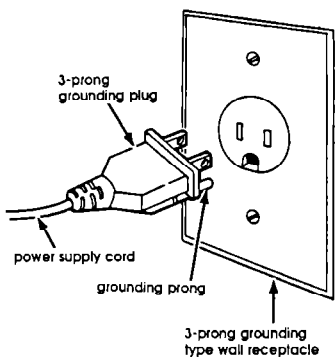

Figure 1
For your personal safety, this appliance must be grounded. This appliance is equipped with a power supply cord having a 3-prong grounding plug. To minimize possible shock hazard, the cord must be plugged into a mating 3-prong grounding type wall receptacle, grounded in accordance with the National Electrical Code, ANSI/NFPA 70-1987 (or to the latest code) and local codes and ordinances. See Figure 1. If a mating wall receptacle is not available, it is the personal responsibility and obligation of the customer to have a properly grounded, 3-prong wall receptacle installed by a qualified electrician.
- e. Rotate blower unit end over end. Rotate the unit 90° so that the exhaust ports face the rear of the unit. Slip wires into clips at the upper left hand corner of blower unit. See figure 1.